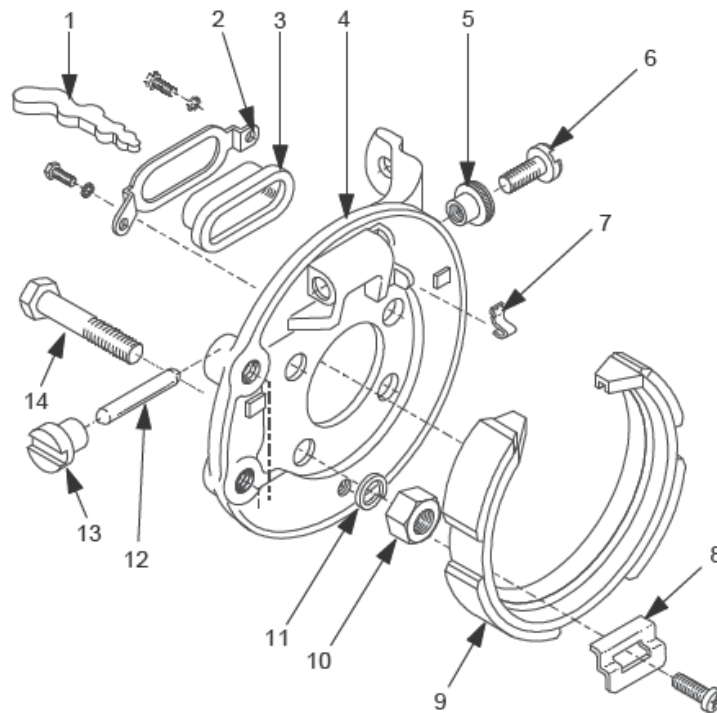

Figure 9 Park Brake Assembly - Exploded View
51. Description. The parking brakes consist of an adjustable, internal, expanding, single shoe and drum type brake activated by an over-centre type lever situated centrally on the front cross-member (Figure 9).
- b. Position the draw link (Figure 9, Item 1) and dust boot (Figure 9, Item 3) on the backing plate (Figure 9, Item 4) with the draw link facing rearwards. Stretch the dust boot over the retaining lip on the back of the backing plate then fit the retaining plate and secure with the two mounting screws fitted with spring washers.
- d. Install the adjuster pawl (Figure 9, Item 7).
- e. Screw the tappet (Figure 9, Item 6) into the adjusting nut (Figure 9, Item 5) until fully home.
- g. Install the push rod (Figure 9, Item 12) into the tappet (Figure 9, Item 13).
- j. Fit the park brake shoe (Figure 9, Item 9) in the operating position.
- k. Apply thread sealant to the hold-down plate mounting screw and install the plate (Figure 9, Item 8). Torque the screw to between 2 – 5 N.m.
- p.** Install the backing plate on the axle flange and secure it with the four bolts (Figure 9, Item 14), spring washers (Figure 9, Item 11) and nuts (Figure 9, Item 10). Torque the bolts to 45 N.m.
Table 2 Annotation to Figure 9